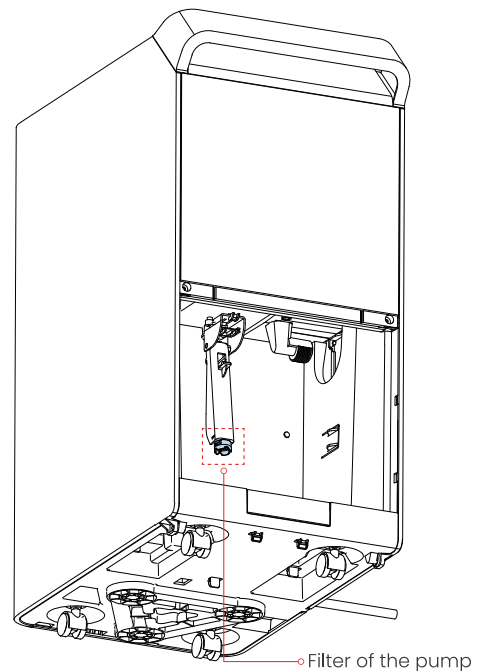

Figure 7.0
- Remove the bucket from the unit, take down the pump and clean the pump filter (See Figure 7.0).